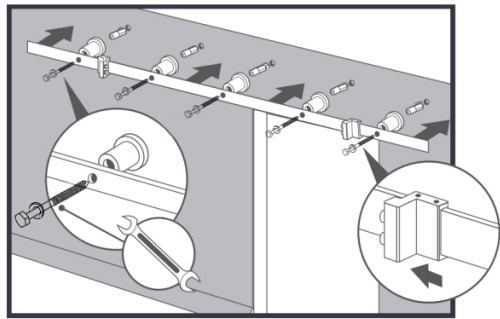

FIGURE 10
- Install the anchors into the holes using a hammer (see FIGURE 10). Gather the bolts, washers, spacers and install the track following the instructions in FIGURE 10.